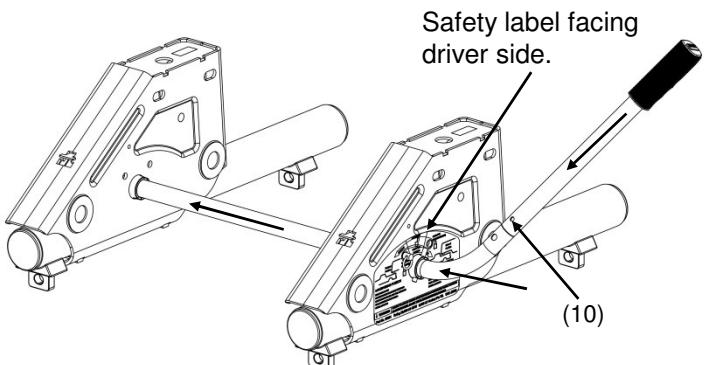

Figure 8
3. Before setting the REESE™ FIFTH Wheel Slider into the bed of the pickup. Insert the bent handle(3) through drivers side assembly(2) (driver's side of towing vehicle) and then through passengers side slide assembly(1). Slide straight handle(9) over bent handle(3). Install roll pin(10). See Figure 8.